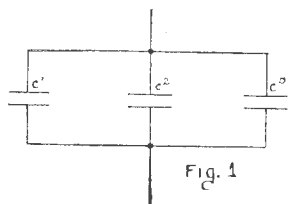
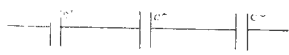

Fig. 1
Fig. 2
There are two methods of connecting up condensers in an oscillatory circuit. They may be joined up in parallel, as shown in fig. 1, or in series, as in fig. 2.
**Parallel Connections (fig. 1).**
When two or more condensers are connected up as in fig. 1, they are said to be in parallel, and the total capacity of the bank is equal to the sum of the individual capacities.
**Series Connections (fig. 2).**
When two or more condensers are connected up as shown in fig. 2, they are said to be in series, and the total capacity is always smaller than the capacity of the smallest condenser.
R = Radius of coil in cms., as measured from the centre of the former to the centre of the wire (see fig. 1)